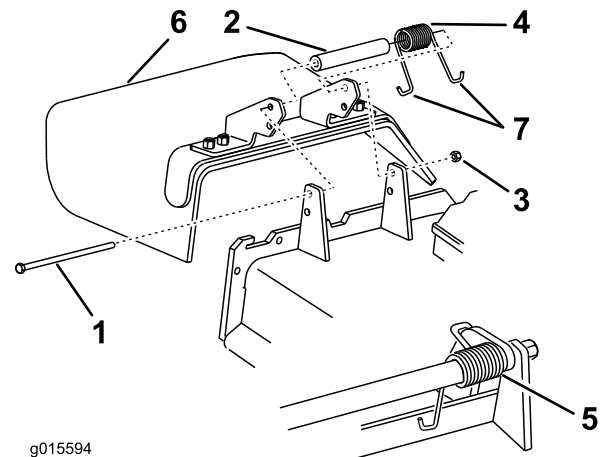

Figure 97
1. Remove the locknut, bolt, spring and spacer holding the deflector to the pivot brackets (Figure 97). Remove damaged or worn grass deflector.
Note: Make sure one J end of spring is installed behind deck edge before installing the bolt as shown in Figure 97.
3. Install bolt and nut. Place one J hook end of spring around grass deflector (Figure 97).